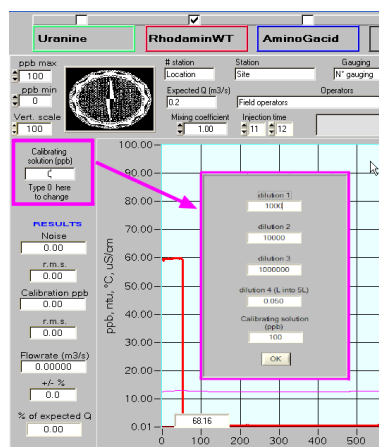

Figure 7: The "calibrating solution" settings in the FLUO software.
5. To estimate the discharge of one breakthrough curve, first enter the concentration of the "calibrating solution" (in ppb) in the window on the left of the time-concentration curve (Figure 7). This is needed to specify the concentration that was used to calibrate the FL30 in the bucket in the field. To change the value enter 0 in the field and press ENTER. A second window appears that shows four fields in which the user enters the stock volume used in each dilution step (dilution 1–4) and the final concentration of the "calibrating solution (ppb)" at the bottom. The final concentration of the calibrating solution is obtained by entering the stock volume in microliters (μ l) diluted in 1 liter during every step performed starting from Stock 1.